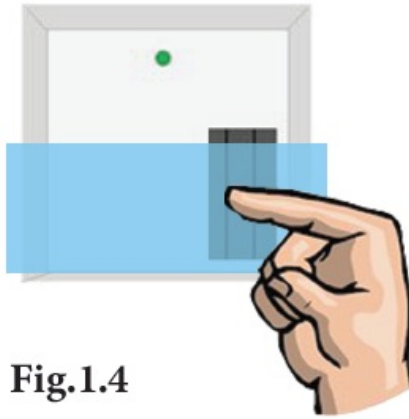

Fig.1.4
- With the water at its desired level – within the blue band shown in Fig.1.4